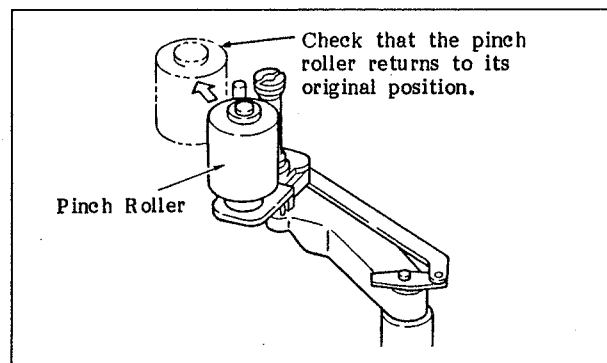

Fig. 6-105 Checking the Operation of the Pinch Roller
3. Push the pinch roller in the direction of the arrow shown in Figure 6-105. Check that the pinch roller returns to its original position when it is released.